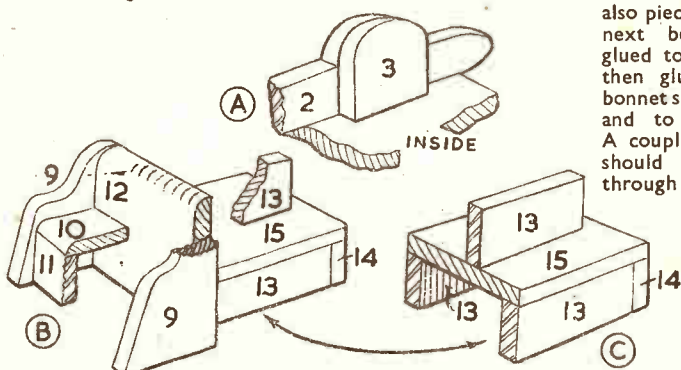
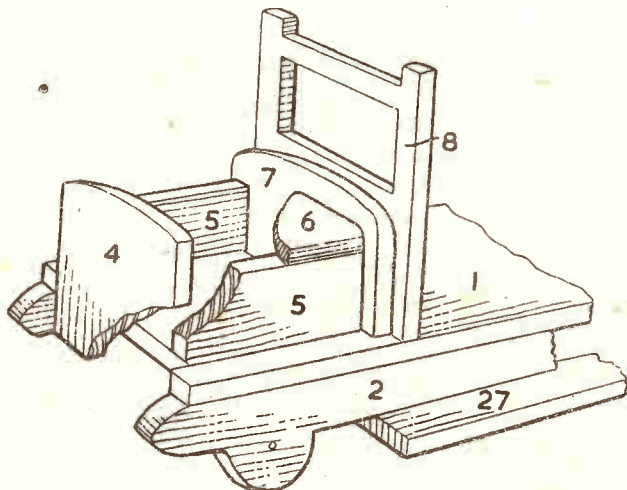

Fig. 2—The seats and detail of stiffener for wheels
Fig. 1—The main floor, bonnet and chassis sides
No. 1 and flush with the edges (see detail Fig. 1). Holes will be bored in these sides to take the fixing screws of the wheels. To ensure a firm fixing for the wheels, the stiffeners (No. 3) are cut to outline shown, and glued inside the sides (No. 2)—see detail Fig. 2 (A).